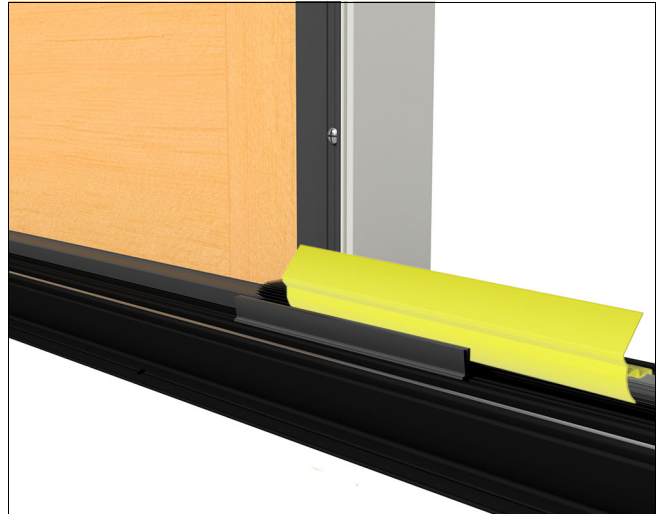
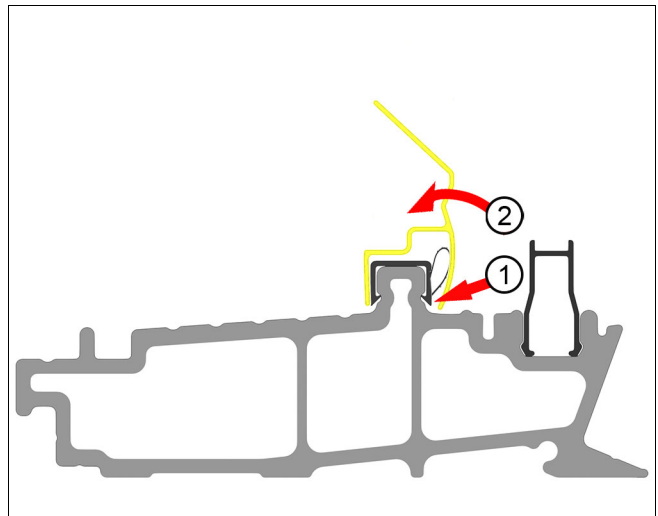

Figure 36
Figure 37
**2. On doors with a performance sill,** install the 8" weather strip jig over the sill weatherstrip. Locate the jig against the stationary panel. Install the leading edge of the jig under the weather strip bulb, then rotate the jig so the back edge snaps onto the exterior leg of the weather strip. See Figure 36 and Figure 37.